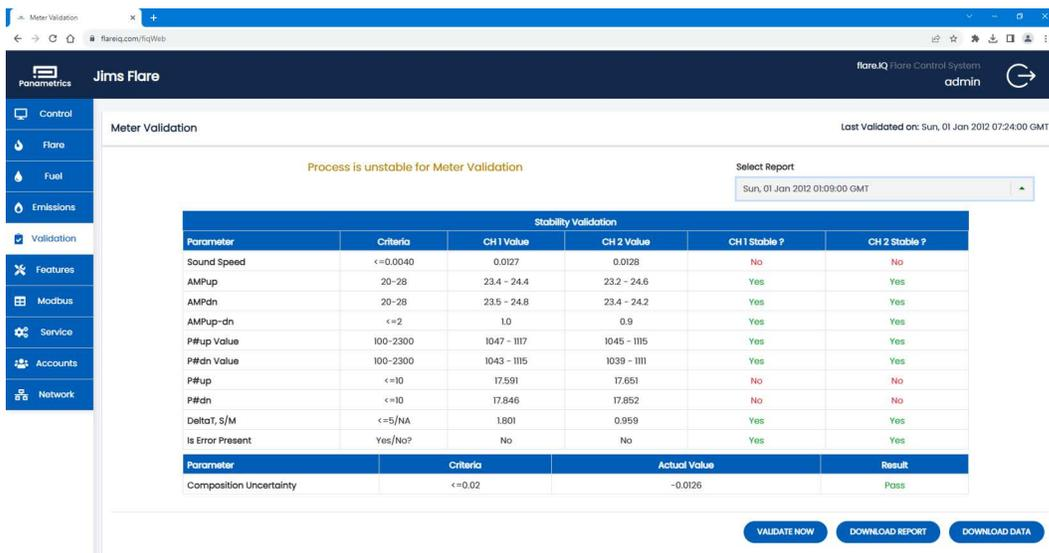

Figure 29: Validation page showing results of an unsuccessful digital verification due to process instability.
Figure 29 shows the results of an unsuccessful meter validation where analysis of the 8-hour data block is unable to identify a sufficiently long period of stable data that can be used for verification. Again, these results can be downloaded as a CSV file for the report and/or for the raw data. Hence, after initial commissioning, the Validation page will display the results of the last digital verification “Flare Meter Digital Validation (DV)” on page 12 (preset or on-demand) along with a drop-down list of all available reports listed in reverse chronological order. The “VALIDATE NOW” button is available immediately after the analysis is complete and results report and data file have been generated.